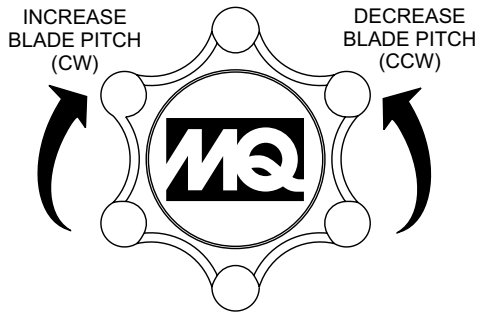

**Figure 7. Upper Handle Adjustment**
3. If readjustment is necessary, loosen the star wheel as shown in Figure 7 and move the handlebar to the desired position.